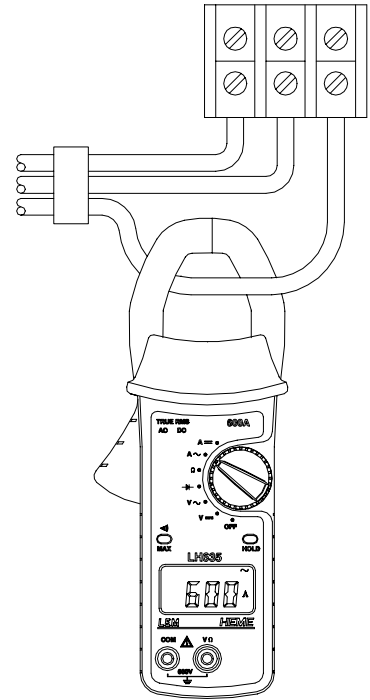

Fig. 2
- Press the trigger to open the jaws and clamp them around the current carrying conductor as shown in Fig. 2